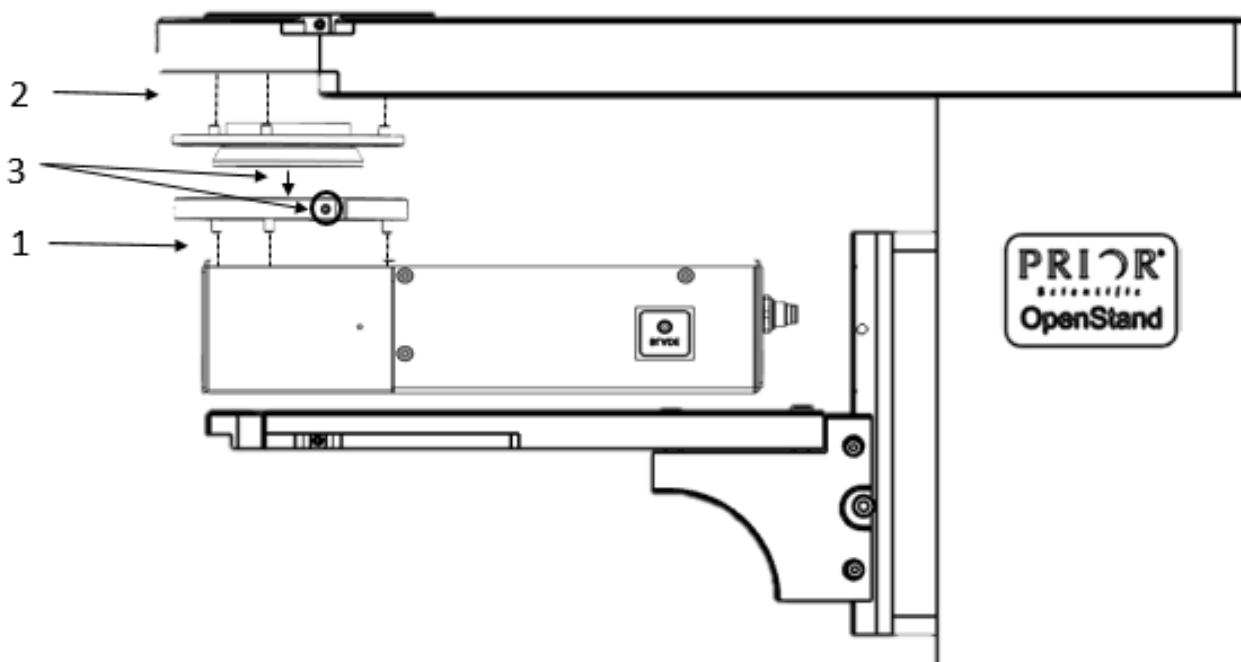

Figure 2 : Fitting LF335 onto the binocular arm on the OpenStand with 40mm Z travel
3. Secure the PF850 head by tightening the T91 screw on the upper dovetail (as circled on Fig 2)